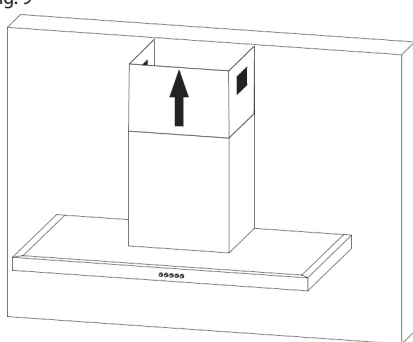

Fig. 10
10. Drill holes and attach the upper chimney part bracket as shown in Fig. 10.